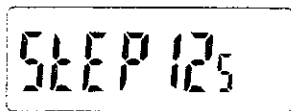

Figure 4b-6
- 1 Press and hold  until the display indicates the current frequency step size (takes about 3 seconds). For example, the following display (Figure 4b-6) represents a frequency step size of 12.5 KHz.